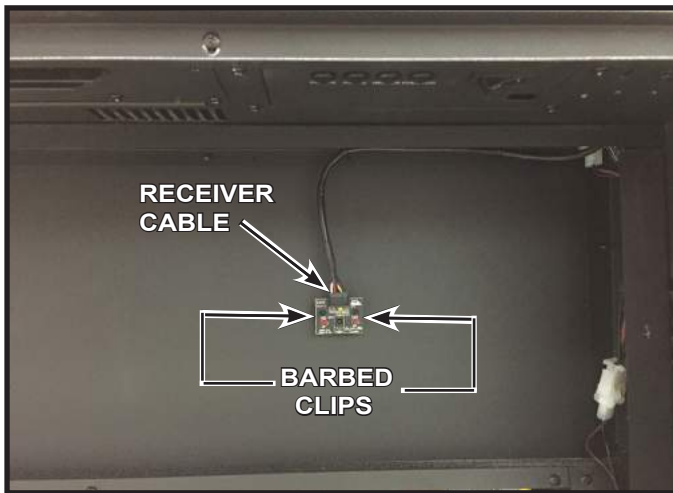

Figure 15
5. Disconnect the receiver cable. See Figure 15.
6. Using a pliers, compress each barbed clip while lifting the Remote Receiver Board evenly to disengage it from the clip. See Figure 15.
7. Carefully align the new Remote Receiver Board to the barbed clips and gently push in place. See Figure 15.
8. Securely reconnect the wiring harness to the new remote receiver. See Figure 15.
12. Install the replacement rotisserie rod. Install the left end of the rod into the bushing in the left rear of the cavity. Align the rubber coupler with the motor shaft. Shift the rod to the right until the rubber coupler fully engages the motor shaft. Re-attach center reflector rod supports, 1 screw each. See Figure 15.